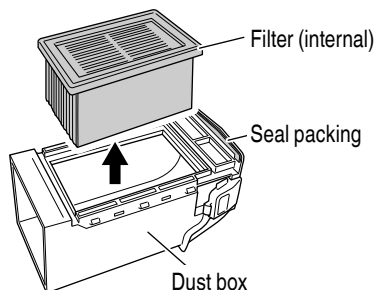

Fig. 17
- (2) Remove the filter from inside, and replace it with a new one. (Fig. 17)